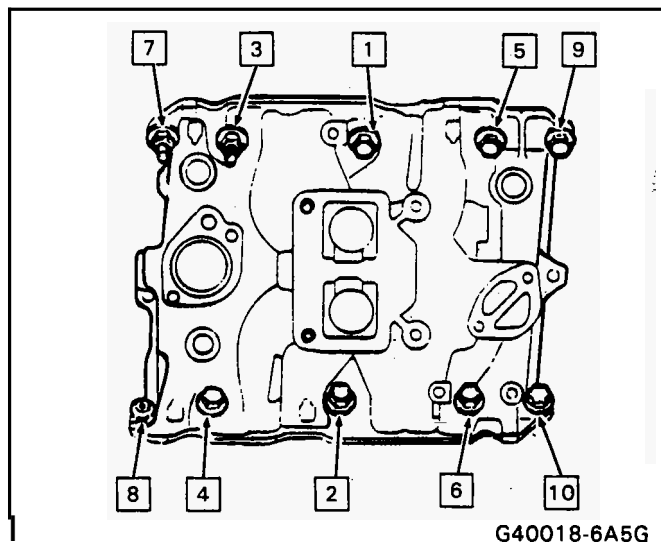

Figure 4 Intake Manifold Bolt Tightening Sequence
See Figure 4
- o Continue in sequence shown on Figure 4.